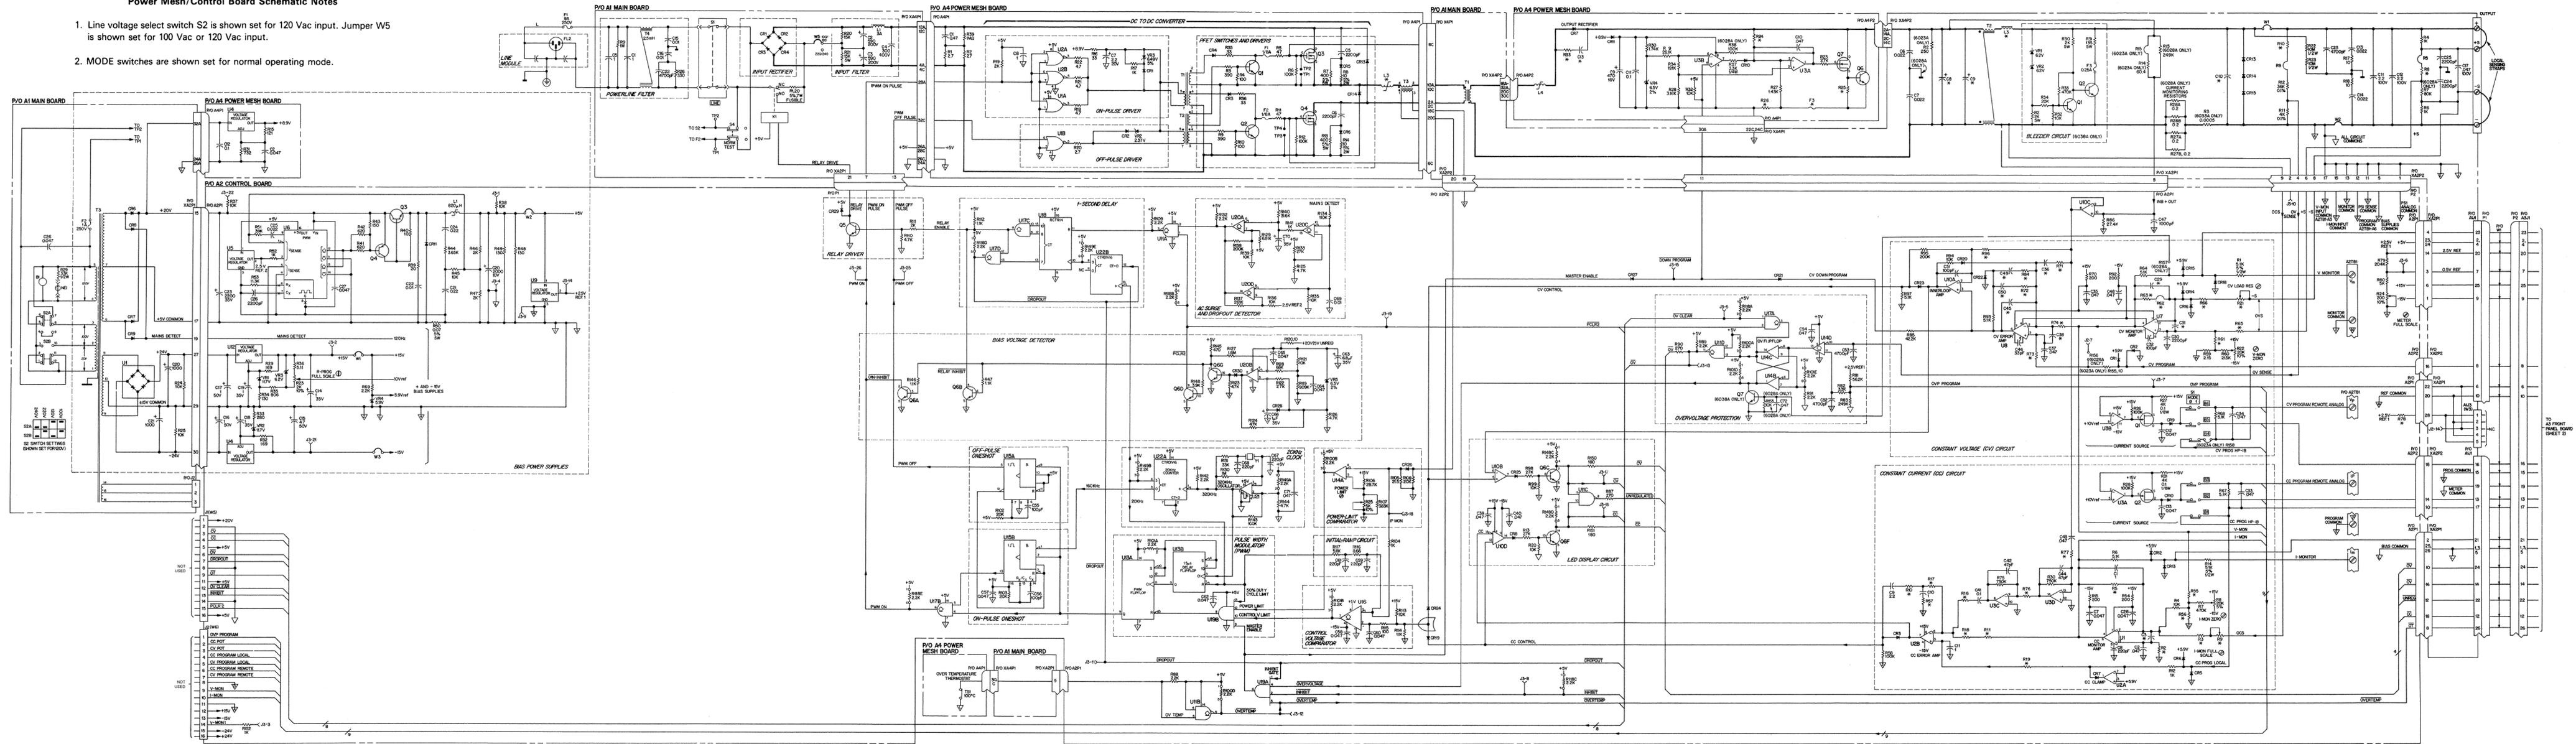

Figure 6-6. Power Mesh and Control Board Schematic Diagram
- c. Figures 6-6 and 6-7 illustrate the detailed schematic of the unit. Test points are called out and short explanatory notes are positioned close to the related circuit to enhance schematic readability.